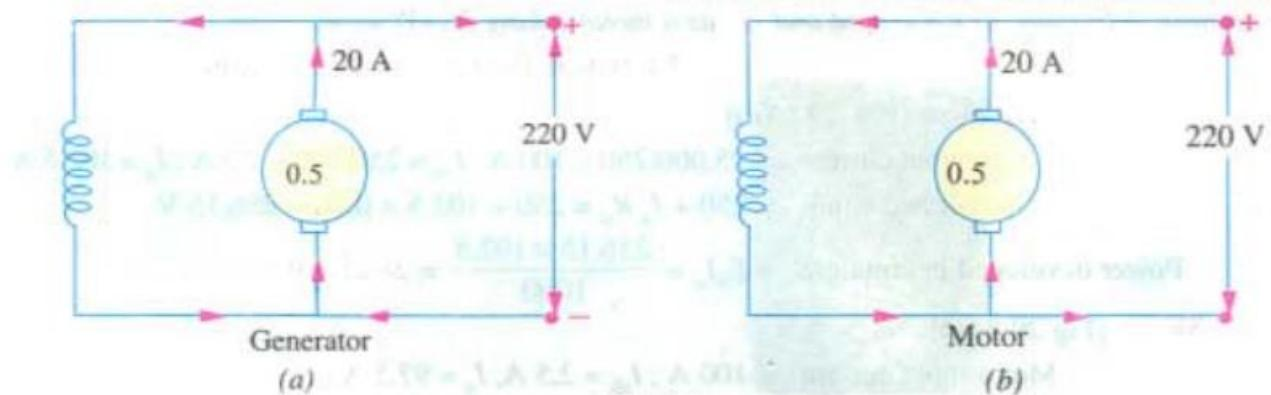

Fig. 29.7
**Solution.** As shown in Fig. 29.7, the d.c. machine is assumed to be shunt-connected. In each case, shunt current is considered negligible because its value is not given.
(a) As Generator [Fig. 29.7(a)]       $E_g = V + I_a R_a = 220 + 0.5 \times 20 = 230 \text{ V}$
(b) As Motor [Fig. 29.7 (b)]       $E_b = V - I_a R_a = 220 - 0.5 \times 20 = 210 \text{ V}$